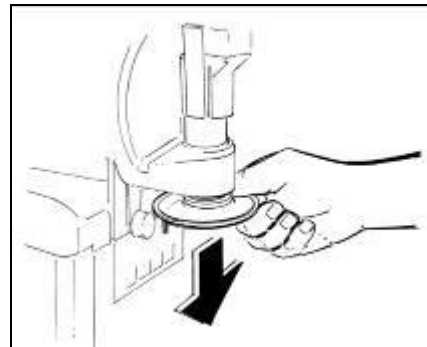

Fig. 6
- **R**emove the accessory to give a "star" peculiar shape to the dispensed product (fig.6).